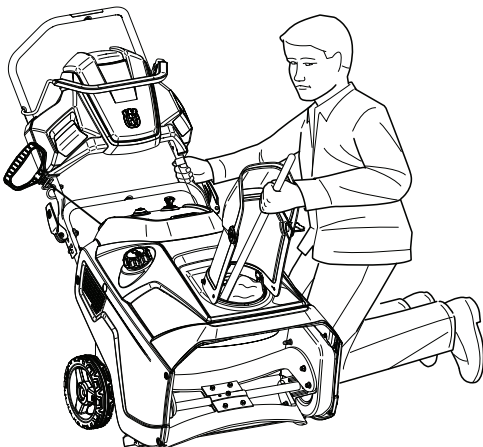

Figure 19
3. Always use a clearing tool at least 15 inches long, not your hands (Figure 19).